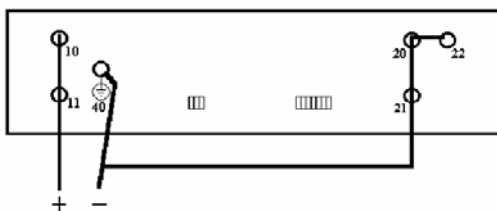

Figure 7. Input to output and input to case isolation voltage test.
4. Connect your isolation tester between input and case. See Figure 7. Raise the voltage of the isolation tester from 0 to 2000Vd.c. Check that the leakage current does not exceed $5\mu\text{A}$. The voltage should not be applied for more than a few seconds or the Y-capacitors might be damaged.
2. Connect the output terminals of the converter to case. See Figure 7.
4. Connect your isolation tester between input and case. See Figure 7. Raise the voltage of the isolation tester from 0 to 2500Va.c. The voltage should not be applied for more than one (1) minute or the Y-capacitors might be damaged.